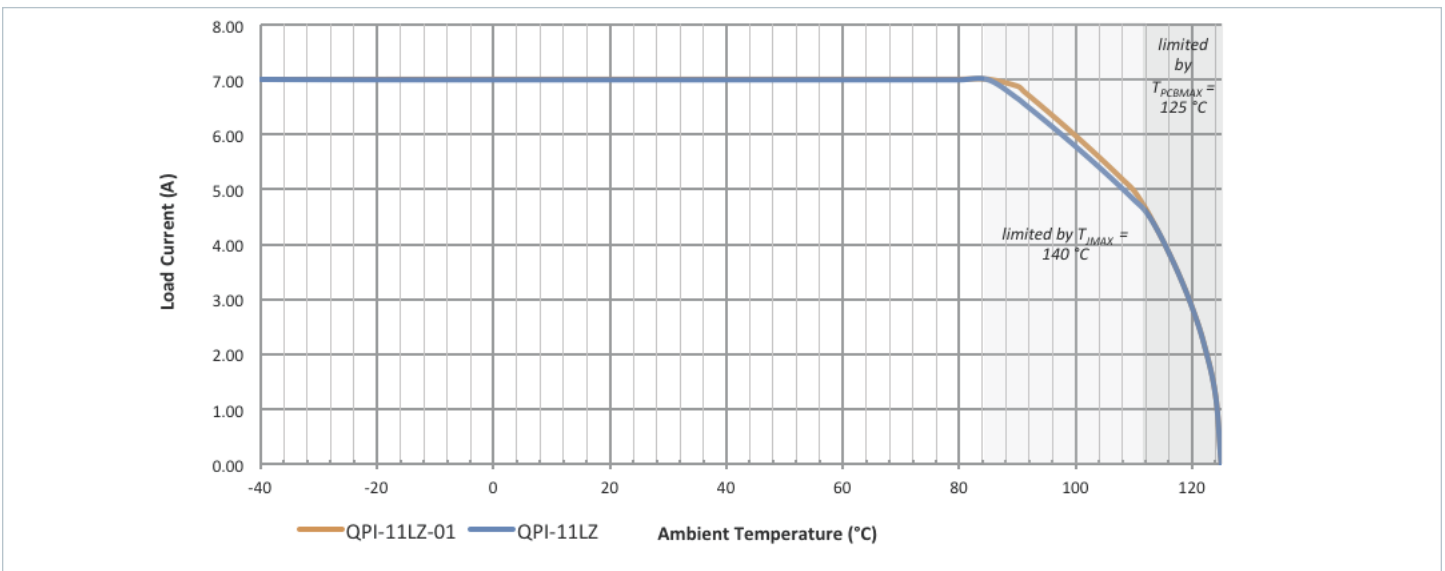

Figure 6 — Current de-rating over ambient temperature range.
- -40° to +125°C PCB temperature (see Figure 6)
^[c] See Figure 6 for the current de-rating curve.